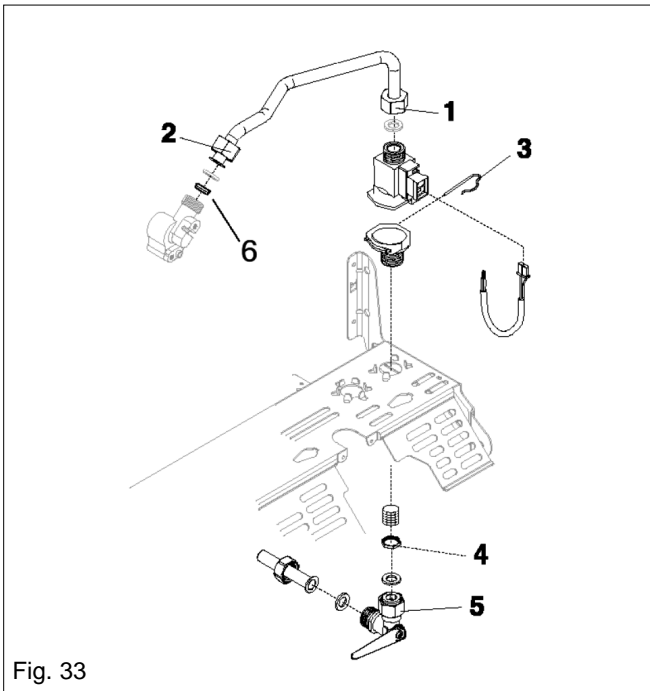

Fig. 33
6.19 FLOW RESTRICTOR fig. 33
6.20 DHW FLOW SWITCH fig. 33